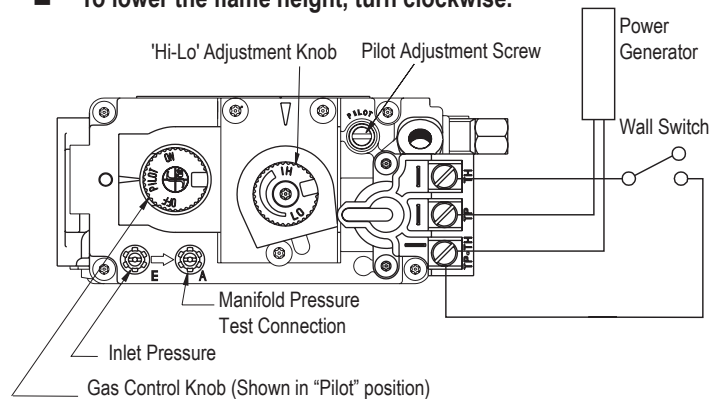

Figure 27. 'Hi-Lo' Adjustment on the SIT Nova 820 gas valve,
The L52DF\* is equipped with an adjustable burner, allowing you to raise or lower the flames. To adjust the flames, locate the black knob marked 'Hi-Lo', in the centre of the gas control valve (See Figure 27).
1. Locate Pilot Adjustment Screw. (See figure 27 or 28.)
Pilot won't ignite	Disconnect remote wires and try to light pilot. If pilot now works, remote connections are faulty. Check wiring diagram figure 27.
Main burner will not ignite	1. Check wiring (see figure 27). 2. Check wall switch for proper connection.